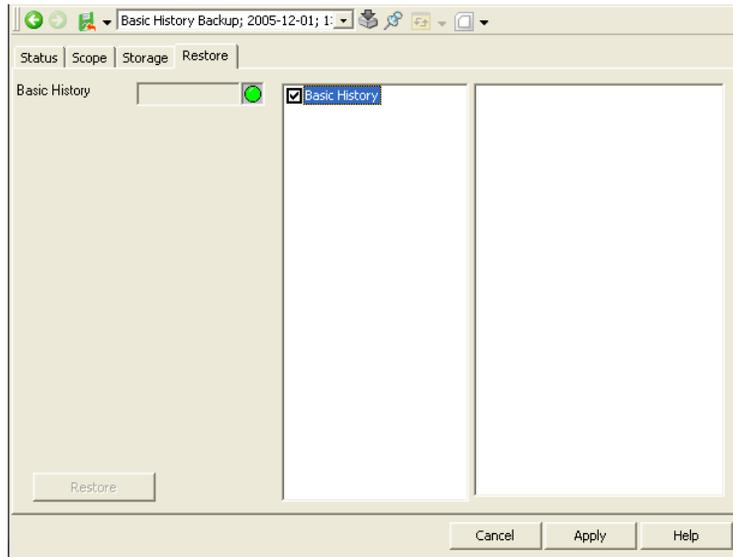

Figure 50. The Restore tab
3. Select the **Restore** tab. See Figure 50 below.